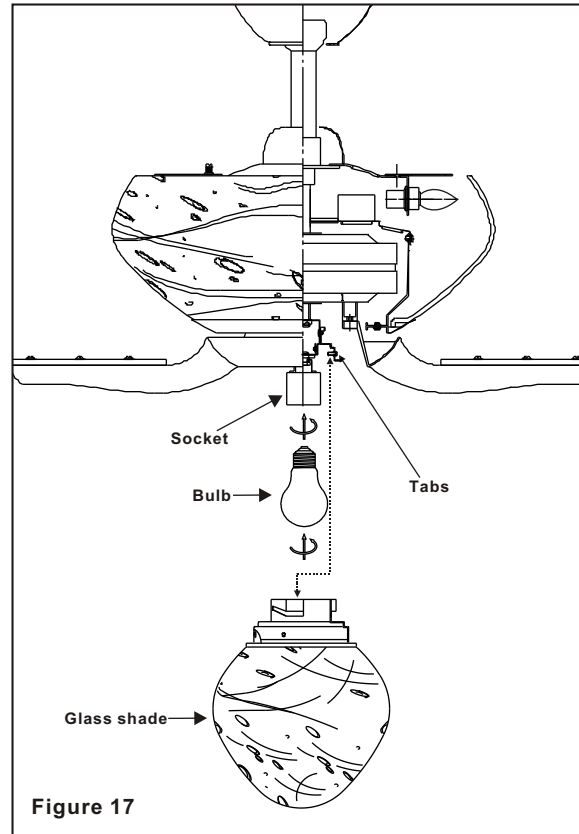

Figure 17
1. Install 1 x100W (Max.) Bulb (included). (Fig. 17)
2. Raise the glass shade up against the bottom of fan housing and secure it to the fan by twisting glass clockwise until the tabs on the light plate properly sits in the notches on the glass. **DO NOT OVER TIGHTEN.** (Fig. 17)